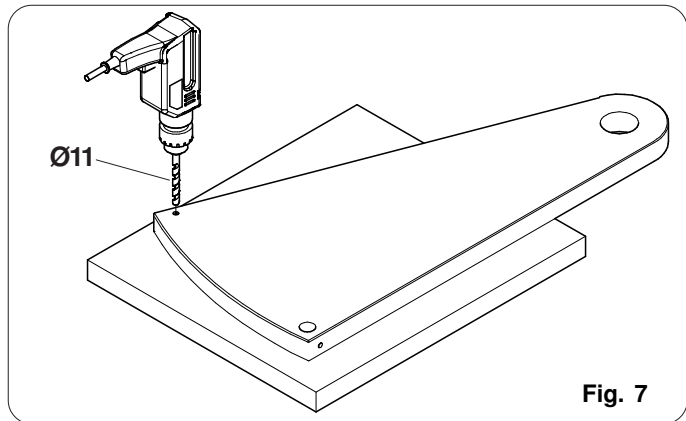

Fig. 7
- Proceed to drill in the previously traced point by using a $\varnothing 11$ wood drill. While drilling, make sure to place the step on a soft surface, preferably wood, so as to avoid damaging the drill at the end of the operation and obtain a hole free from scraps and chips. fig. 7